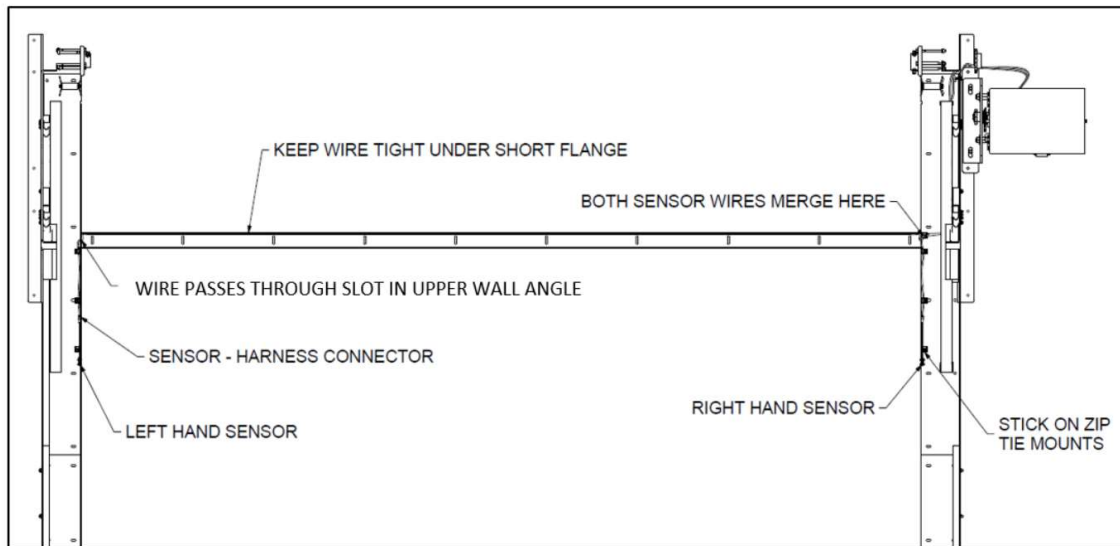

Figure 22- SENSOR WIRING PLACEMENT DIAGRAM (RIGHT-HAND MOUNTED OPERATOR SHOWN)
59. Connect sensors to supplied wire extension cables and route toward side of door where operator is mounted, utilizing slots in wall angles to pass through header seal cross member as shown in **Figure 22**.
61. At this point, it would be best to route the lock wiring. Both interlock switches must be wired as Normally Open (NO) and in series and the wires should follow a similar path to that of the sensor wiring harness. The wires first run from the outside of the wall angle, then through a hole near the junction of the lower and upper wall angles, and finally through the ramp and either across the header seal cross member or up to the operator (depending on side). Be sure to leave additional length of wire and not to terminate at this time, as lock adjustment might still be necessary at later steps.